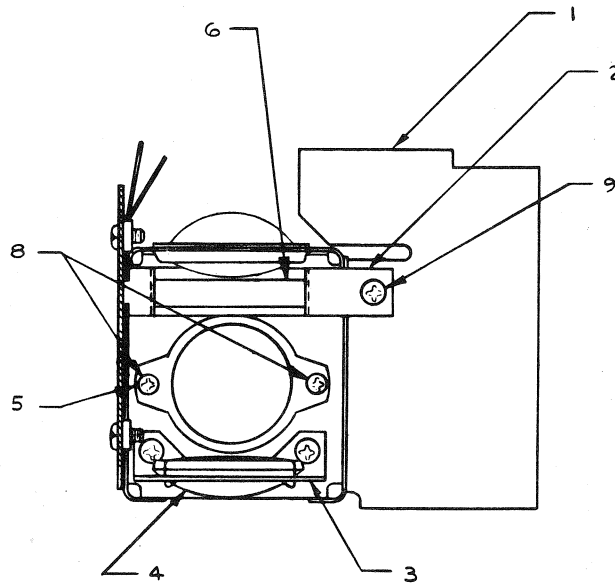

Figure 4-3 Optical Assembly
4.30 HEAT FILTER (Refer to Figure 4-3)